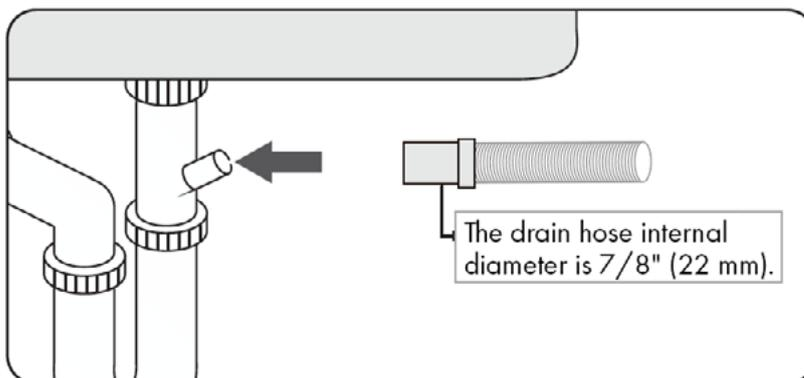

Figure 13
3. Check the size of the sink's drain hose connector ($7/8''$ / 22 mm) — as shown in Figure 13 on the next page). If the end of the drain hose does not fit onto the drain hose connector of the sink, use an adapter purchasable at a plumbing/hardware supply store.